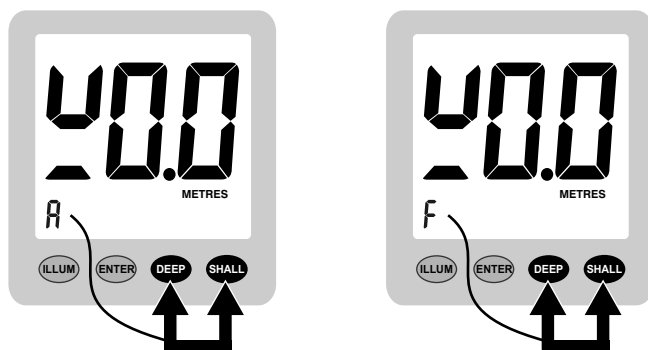

Figure 11 - Switching Between Averaged and Fast Display Modes
The factory pre-set display mode is Fast (F), which shows depths as they are received twice a second. Press DEEP and SHALL together to switch between Fast (F) and Averaged (A) depth display. The present display status is shown on the digit in the left-hand bottom corner, which switches between F and A for each press of DEEP and SHALL together, as shown on Figure 11. Press the ILLUM key to return to normal echo sounding mode.